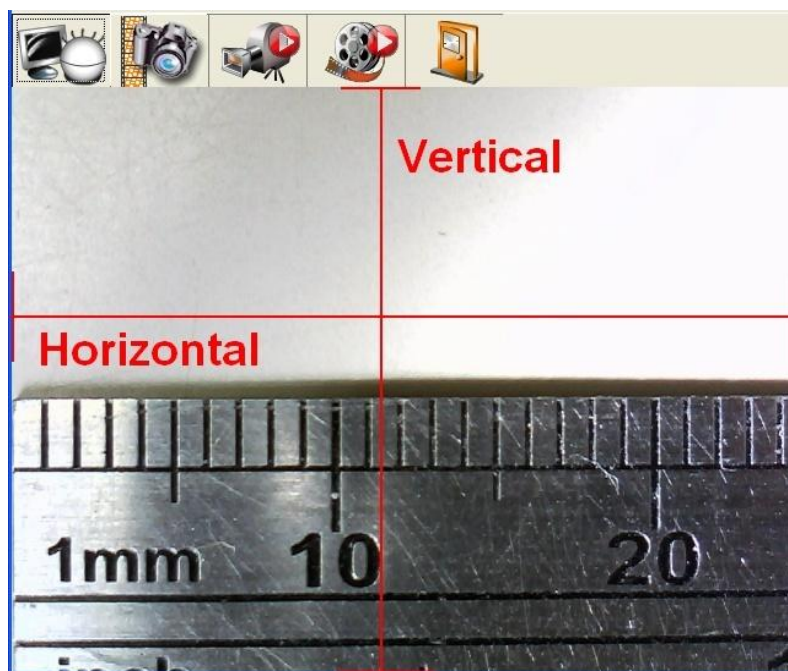

Fig.5-33 Horizontal and vertical measurement range
- Calculate the observation video image of horizontal and vertical scale. Calculate the range shown in Fig.5-33.